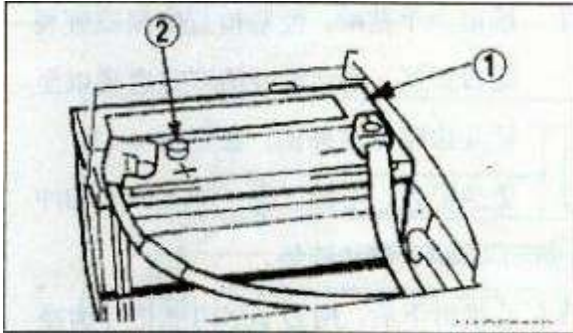

Fig 4-40
4. Check the charging status of the battery ① (Figure 4-40) by observing the brightness of the indicator ② set inside.
- Green: Normal Figure 4-40